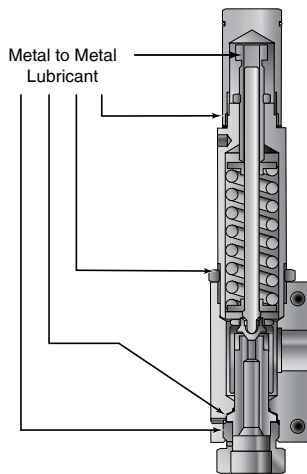

Figure 5
5. Relief Valves - Threads should be lubricated on the cap, spring cylinder, adjustment bolt and on the seat gland. Refer to Figure 5 for lubrication sites on the relief valve.